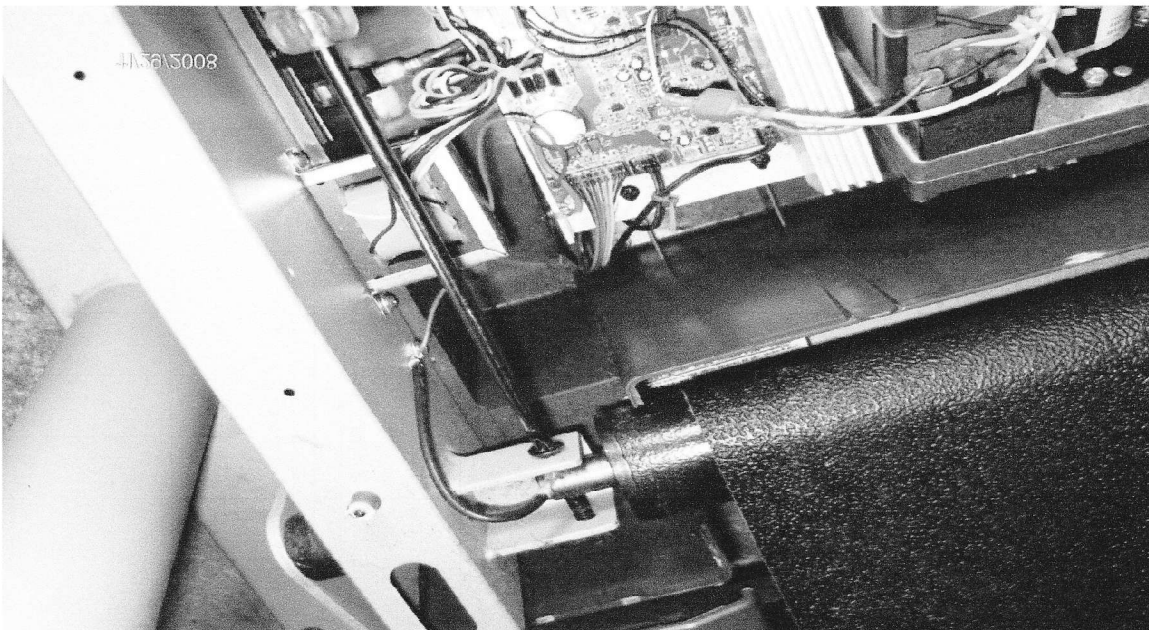

FIG 5.
- 5) **Mark the front alignment screw (if screw position is not marked, it will be difficult to re-align later), then remove it completely. Then remove the front roller (fig 5).**